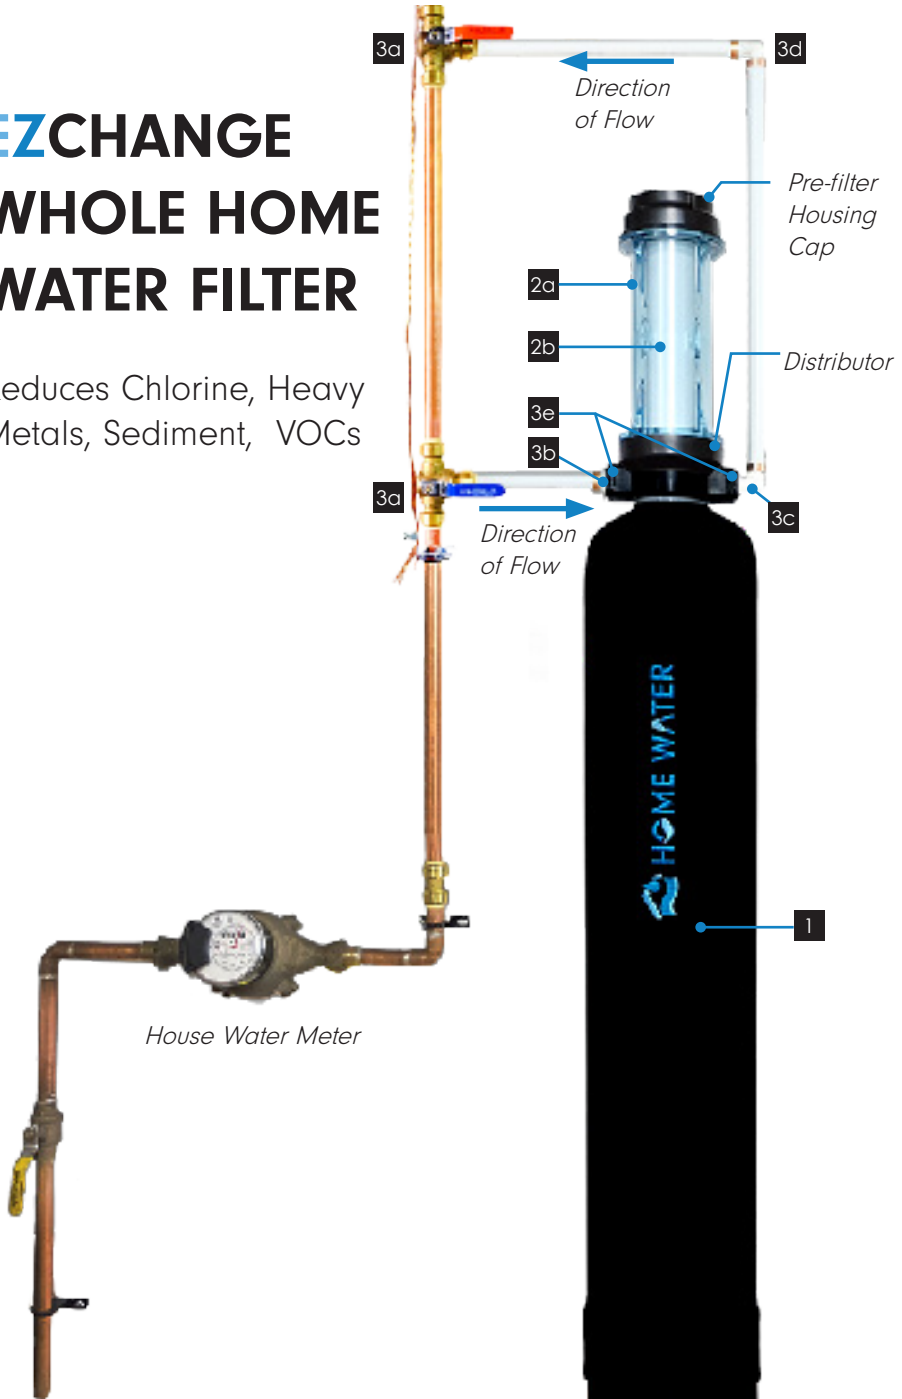

Fig 1. Standard Setup
*Reference Fig. 1 for visual guide*